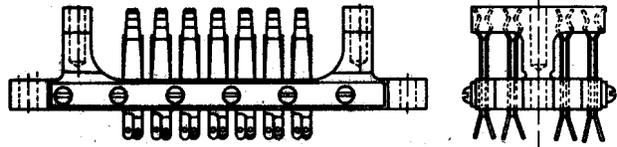

Fig. 6—311 Jack
**2.06 311:** This multicontact jack (Fig. 6) is used with the 300A plug. This jack is designed for switching or patching in emergency switching and patching plug and jack equipment of dial offices. The contacts are insulated from each other and arranged in pairs. The 311 jack is provided with guide holes